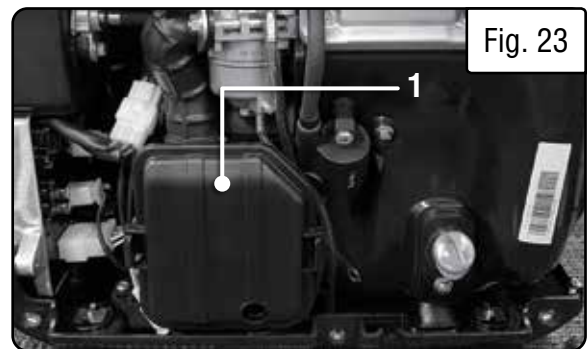

Fig. 23
2. Open the air filter cover (Fig. 23 - 1), and remove the foam air filter element from the casing.